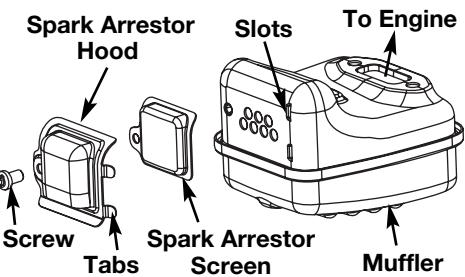

Fig. 22
2. Locate the muffler, **but do not remove it**. Find the screw on the bottom of the muffler (Fig. 22). This screw holds the Spark Arrestor Hood Assembly and the spark arrestor screen to the bottom of the muffler. Remove this screw using either a Torx T20 or flat blade screwdriver.
- Place the spark arrestor plate on top of the spark arrestor screen with the raised side up and the opening facing toward the engine (Fig. 22).
- Place the spark arrestor hood on top of the spark arrestor plate with the "raised" side up and the opening facing AWAY from the engine (Fig. 22). Verify that the exhaust will be directed AWAY from the engine.